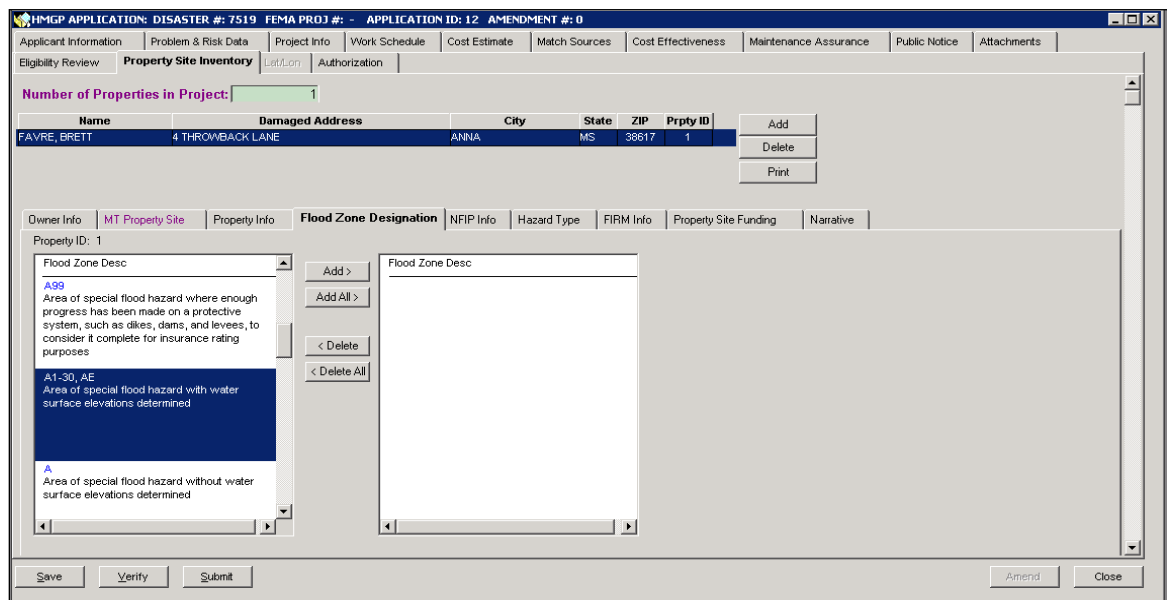

Figure 6-93: Mitigation > Projects > Application Development > Property Site Inventory > Flood Zone Designation Sub-tab
12. Click the **Flood Zone Designation** sub-tab (Figure 6-93). To add Flood Zone Designation information, complete Steps 11a - 11b.